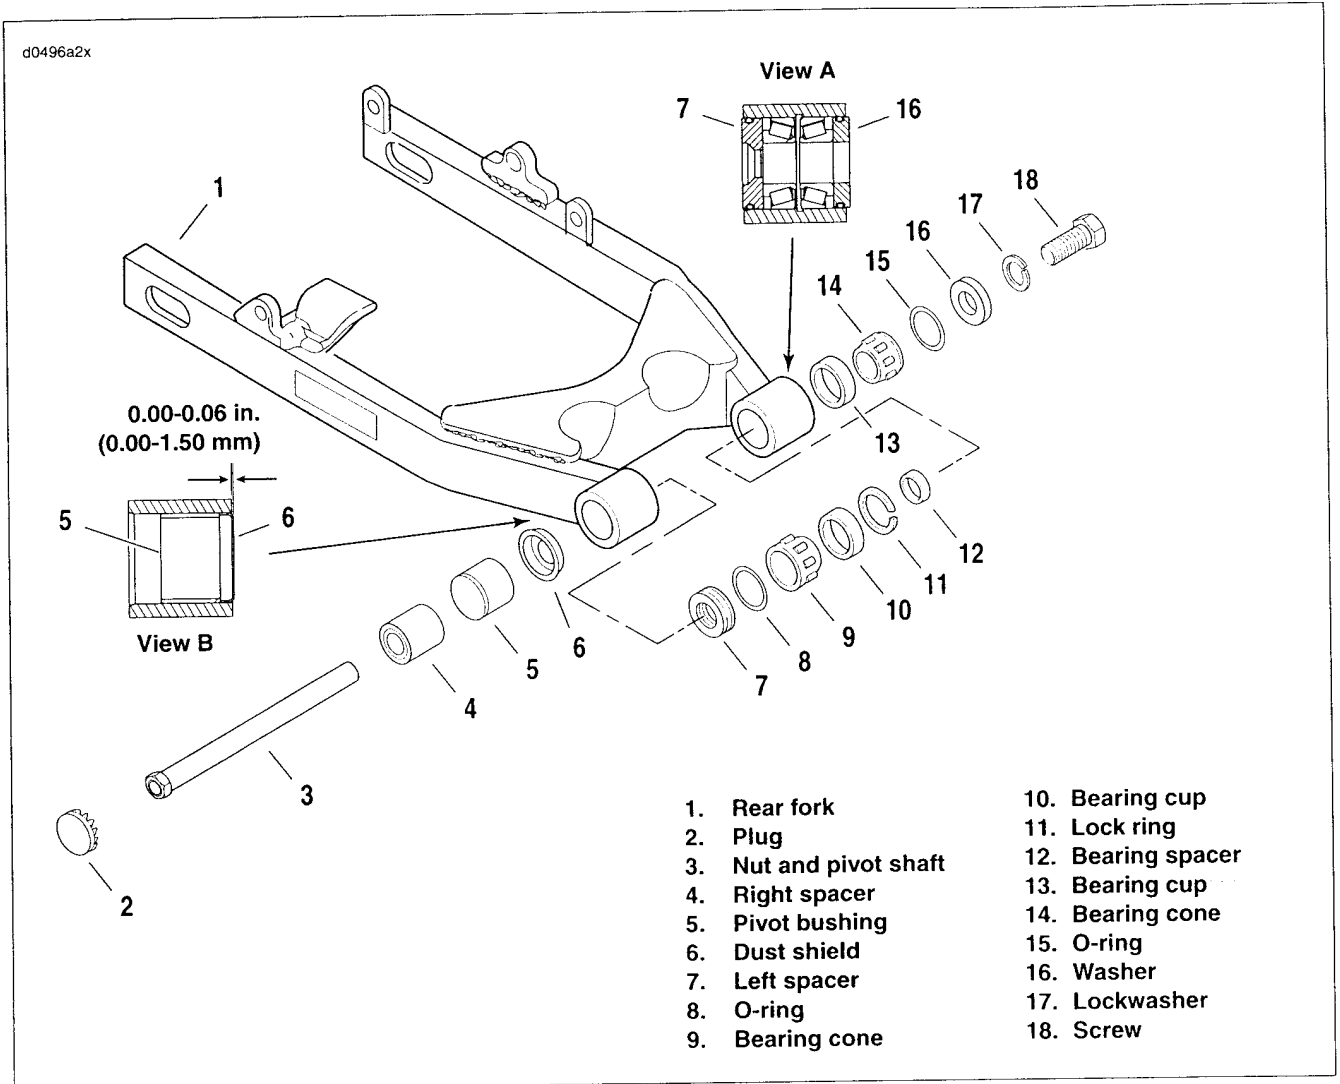

Figure 2-107. Rear Fork
5. See Figure 2-107. Remove plug (2).
6. Remove screw (18) and lockwasher (17).
7. Remove pivot shaft with attached nut (3). Support rear fork (1) and pull assembly from frame.
1. See Figure 2-107. Remove washer (16), spacers (7, 4), bearing cones (9, 14) and bearing spacer (12).
2. See Figure 2-107. Check condition of O-rings (8, 15) in washer (16) and spacer (7). Install **new** O-rings if required.
1. See Figure 2-107. If necessary, install **new** lock ring (11) and press **new** bearing cups (10, 13) into position.
2. See Figure 2-107. Hold fork assembly in position and install the pivot shaft with attached nut (3). Place lock-washer (17) over screw (18) and install next to washer (16). Tighten screw to 45-50 ft-lbs (61.0-67.8 Nm).